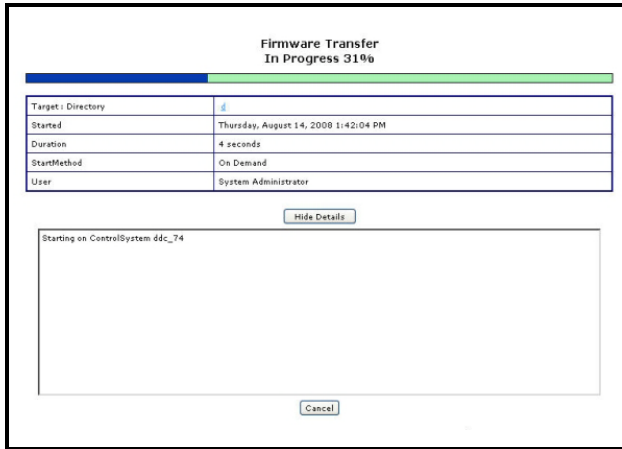

Figure 6-30 - Firmware Transfer Status Page
- Once the Firmware Transfer has been initiated, the *Activity Status* page will open (**Figure 6-30**) and show the progress of the activity: